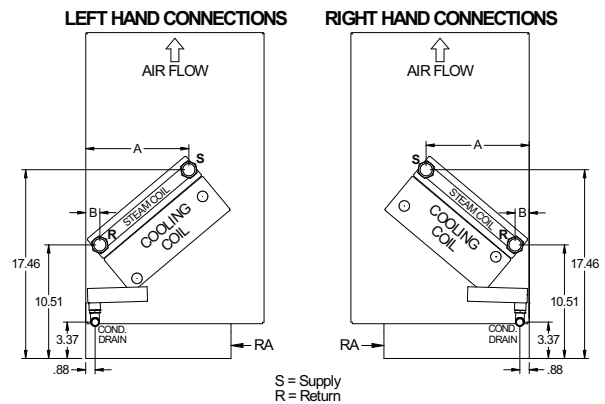

Fig. 27 — Steam Re-Heat Coil With Chilled Water/DX Cooling Coil (No Piping Package)
- For Hot Water Reheat piping location see Fig. 13. For Steam Reheat piping location see Fig. 27.